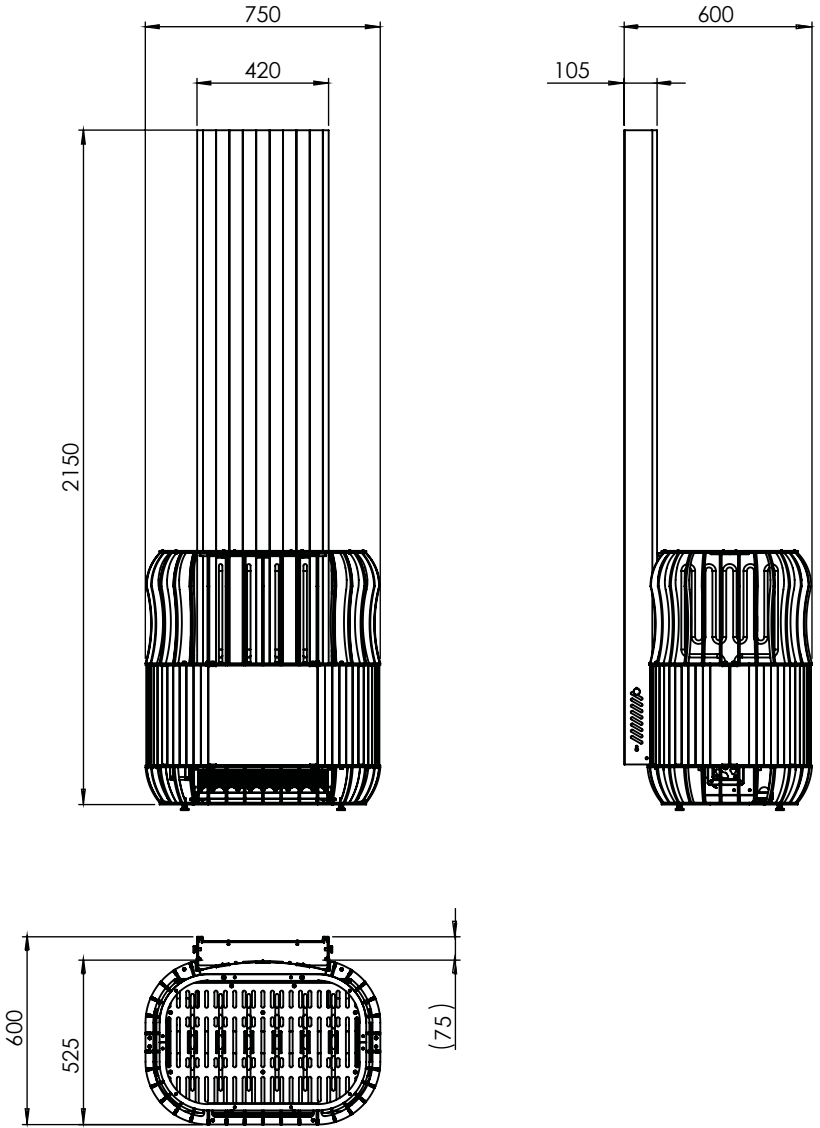

Figure 1. Sauna Professional dimensions
- The dimensions of the device are shown in Figures 1 and 3.